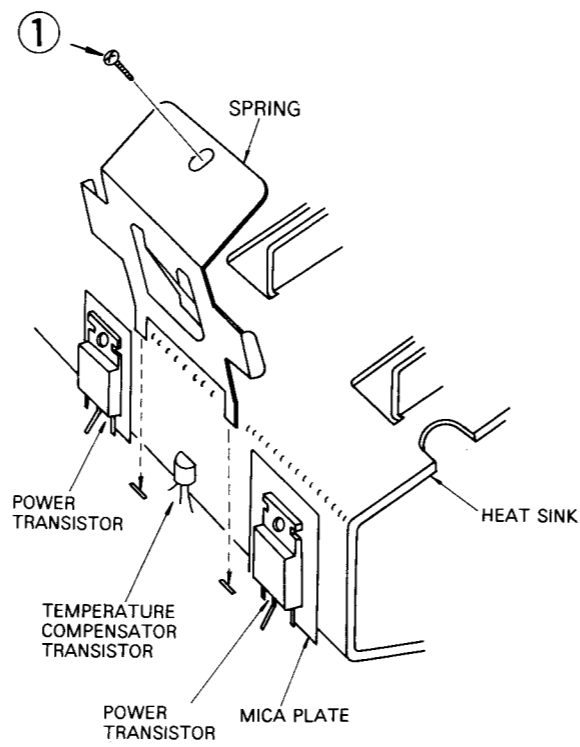

Fig. 5
- (1) Remove the P.C.B. (See the "To remove P.C.B.").
- (2) Loosen one screw ① holding the spring to cover transistor as shown in fig. 5.
- (3) Pull out the spring from the P.C.B.
- (4) Remove the defective transistor.